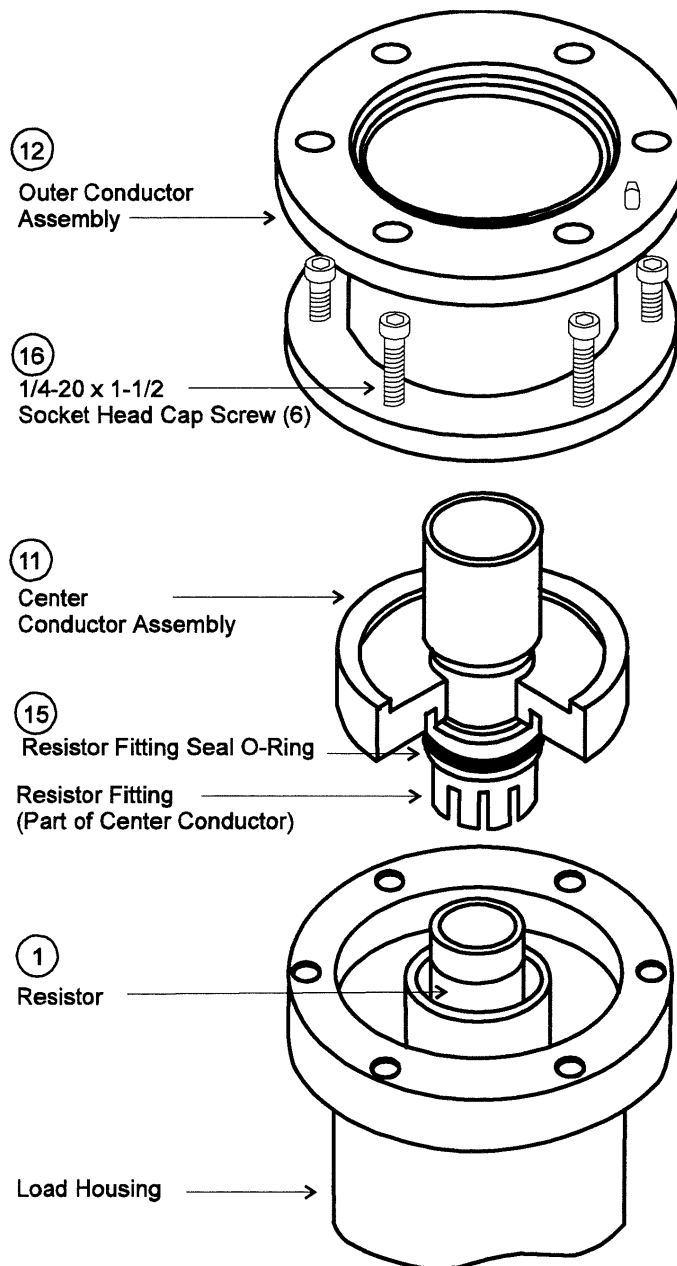

Figure 5-2. RF Input Assembly (Exploded View)
2. Using a 3/16 inch Allen wrench, loosen and remove the six (6) 1/4-20 x 1-1/2 inch socket head cap screws [16] from the flanged end of the load housing, as shown in figure 5-2. The outer conductor assembly [12] or [14] may now be easily removed.
3. Next remove the input center conductor assembly [11] or [13], figure 5-2, by pulling it out of the load housing, and then carefully remove any remaining pieces of the resistor. Normally, at this disassembly, the outer flow tube will remain with the load housing. Restore it to this position after inspection and cleaning if it should come out. Inspect the inside of the load housing for any apparent damage.
3. With the resistor still in place in the resistor fitting, insert the resistor and the input center conductor assembly into the load housing, as illustrated in figure 5-2, reversing procedure in paragraph 5.6, step 3, above. Then replace the outer conductor assembly and the six (6) 1/4-20 x 1-1/2 inch socket head cap screws, and tighten.